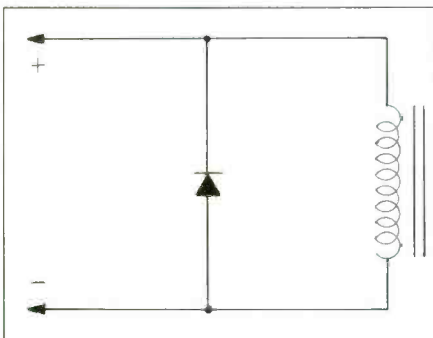

Figure 1
D.C. coil relays and solenoids can be "de-popped" by connecting a diode across the coil, positive (cathode) of diode to positive side of coil, in order to short-circuit the pulses created when the coil is turned off (Fig. 1). As the pulse generated here is of opposite polarity to the coil supply, the diode shunts the pulse out. Use a diode with